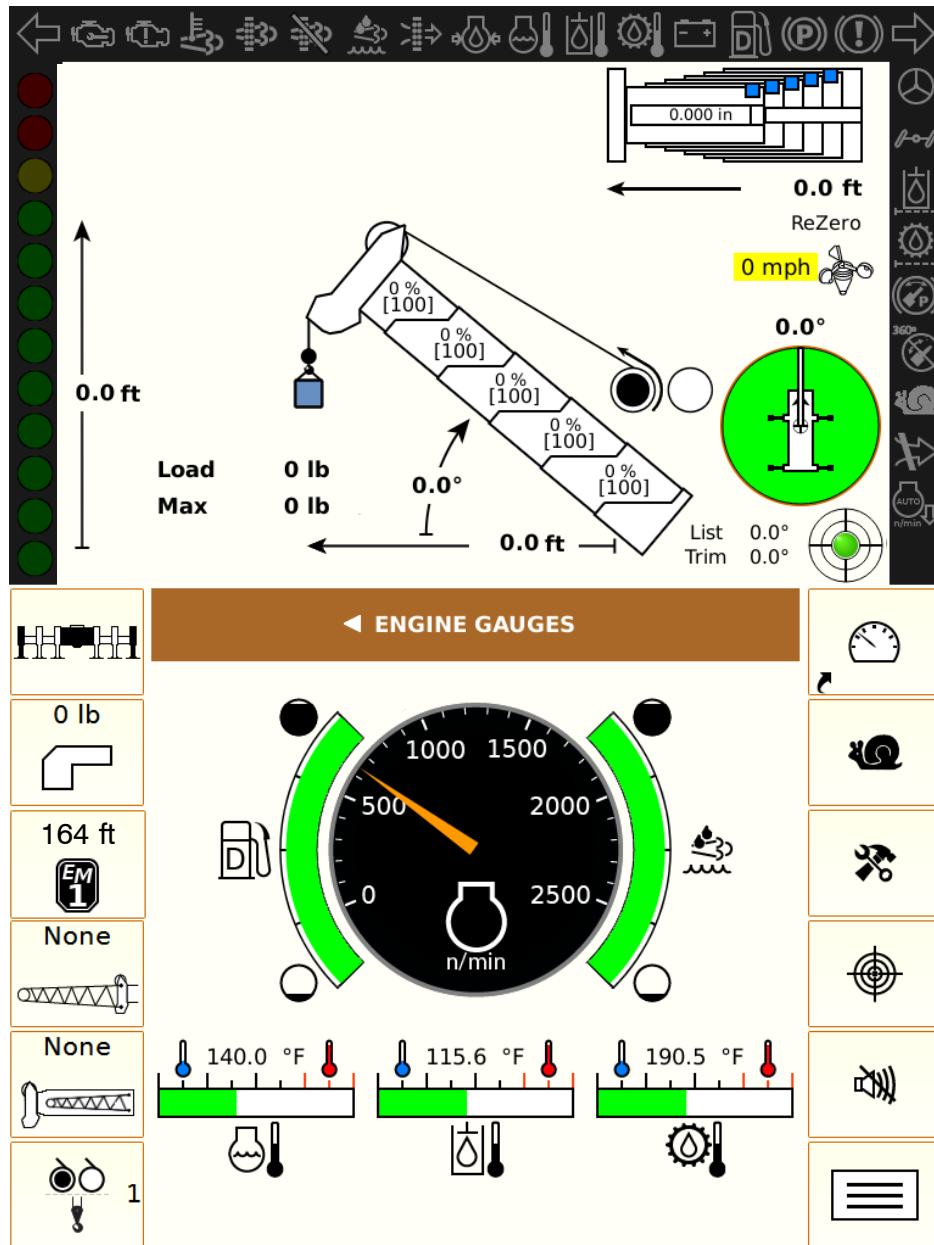

Figure 1-159
2. The Engine Gauges Screen will appear. Refer to Figure 1-159.